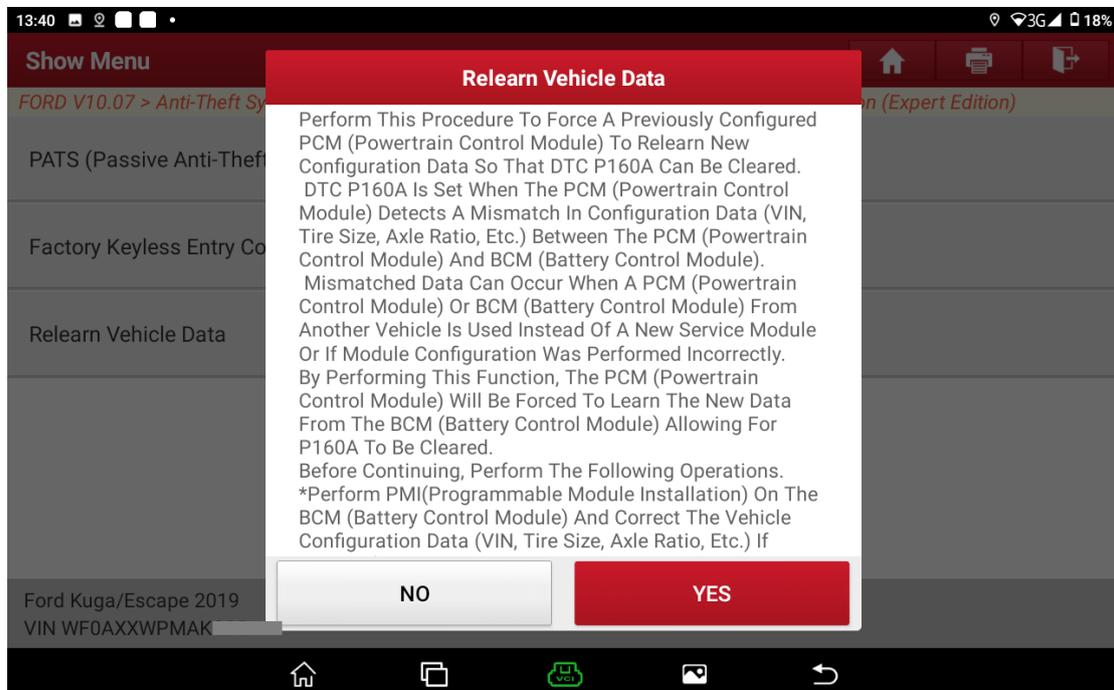

Figure 20
18. Prompt the function execution conditions and precautions. See Figure 20.